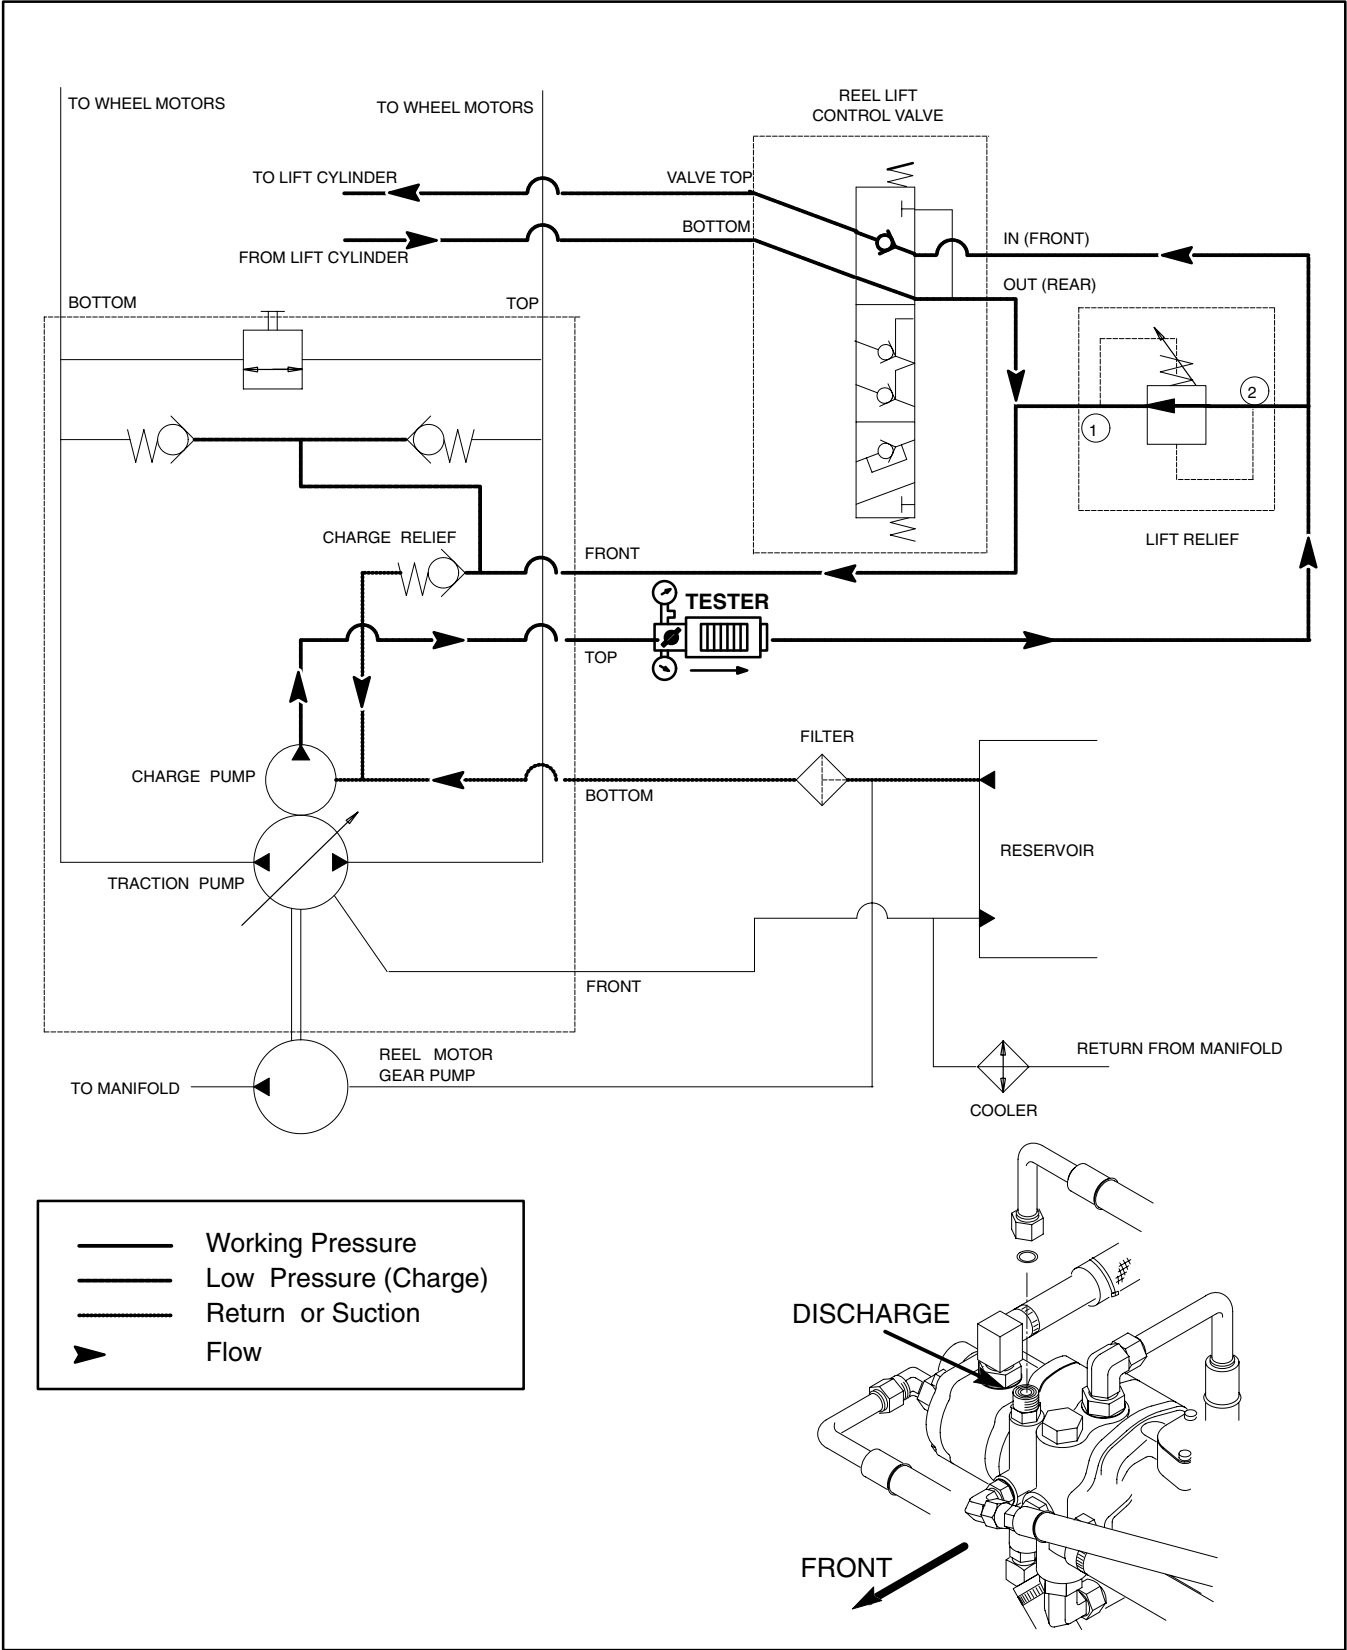

Figure 21
4. Disconnect outside top hose from the discharge fitting of the charge pump (Fig. 21). Connect gauge end of flow tester with pressure gauges to the pump discharge fitting.